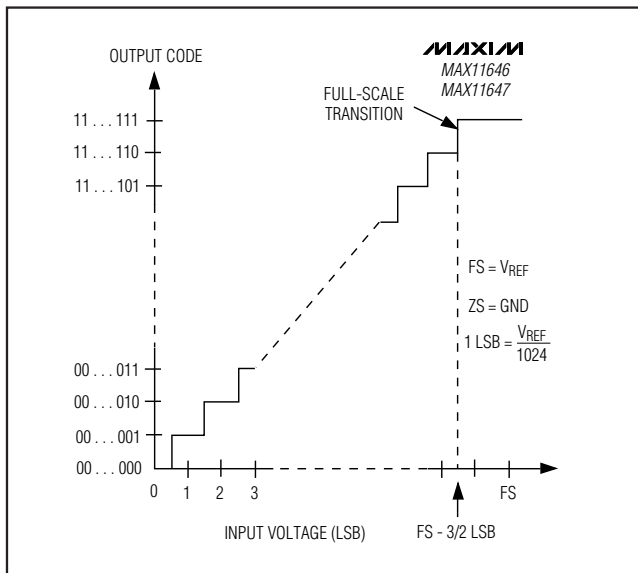

Figure 12. Unipolar Transfer Function
Output data coding for the MAX11646/MAX11647 is binary in unipolar mode and two's complement in bipolar mode with 1 LSB = (V_{REF}/2^N) where N is the number of bits (10). Code transitions occur halfway between successive-integer LSB values. Figures 12 and 13 show the input/output (I/O) transfer functions for unipolar and bipolar operations, respectively.